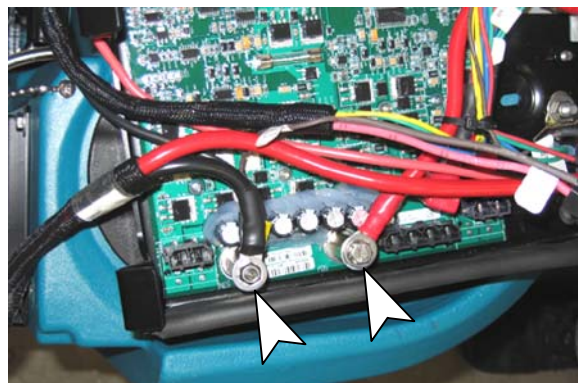

Fig. 5
4. Remove the positive (+) red power cable and the negative (-) black power cable from the circuit board (Figure 5).